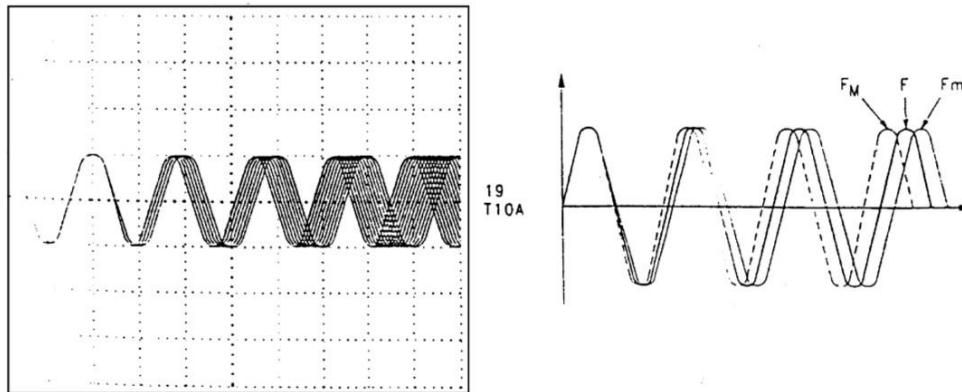

Fig. 8
4. Connect O/P of Varactor Modulator TP9 to Ch 2 of Oscilloscope. Now vary the amplitude of the Audio signal. Variation in frequency as shown in Fig. 8 can be observed.